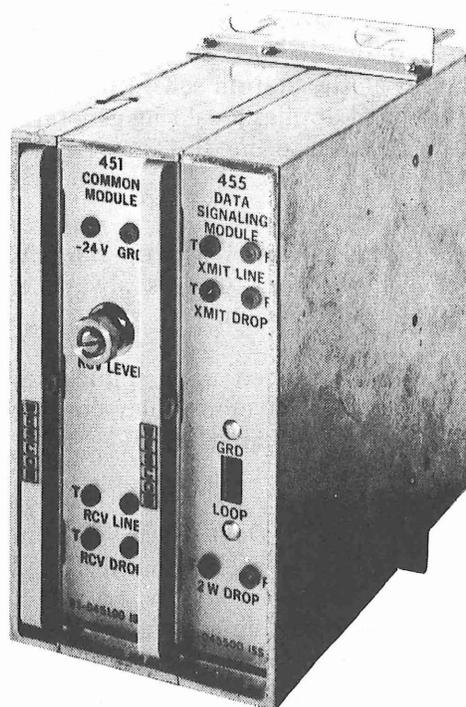

Figure 1. 455 Data Signaling System
1.02 The 455 DATA ACCESS Inband Signaling System (Figure 1) is comprised of a 451 Common Module and 455 Data Signaling Module mounted in two positions of any Wescom Type 400 Mounting Assembly. This 455 system is normally used at a station (subscriber) port of a "400 Data Package" four-wire facility. Conversion of supervisory only signals to SF for transmission is accomplished by the 455 system. Additionally, either LOOP START or GROUND START operation is provided.